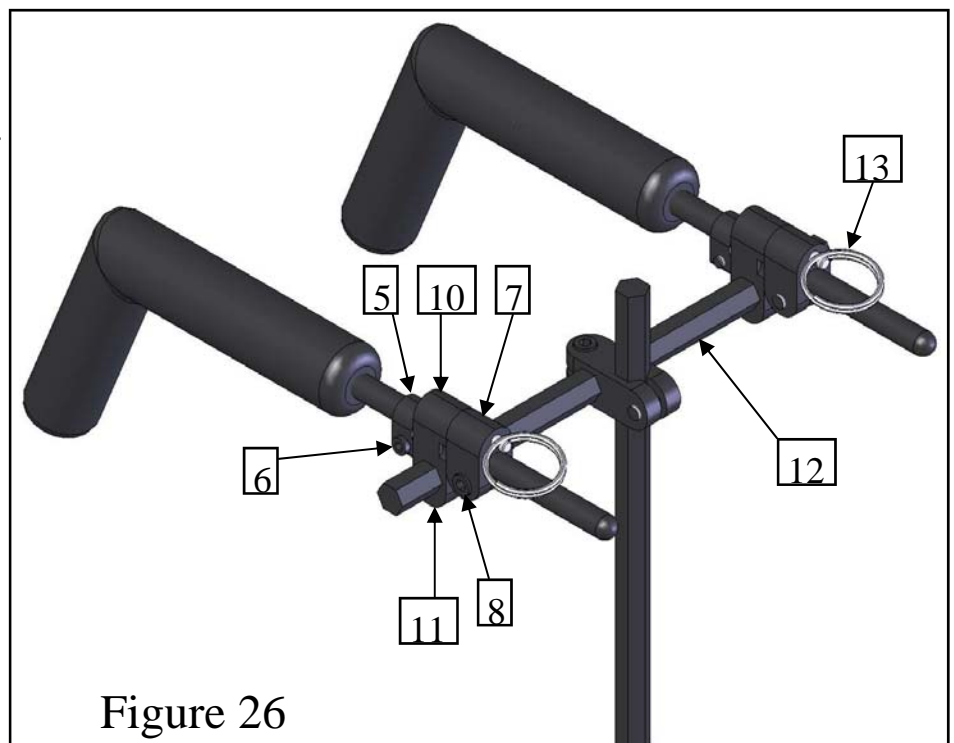

Figure 26
2. **Width:** (Refer to Figure 26) Loosen the set screw (11) on the bottom of the pivot pin receiver (10). Slide the